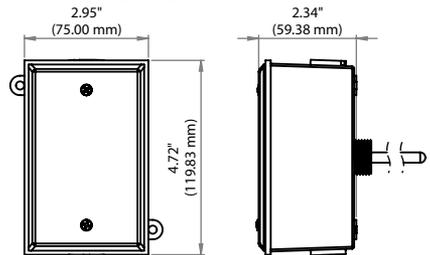

FIGURE 2: MOUNTING DIMENSIONS
Drill a 3/8" hole in the duct and insert the probe through the hole until the enclosure is tight to the duct. Drill pilot holes for the (2) mounting screws. Use the enclosure flange as a guide, or use the dimensions listed in **FIGURE 2** (p. 2). Now fasten and insert (2) screws through the mounting holes in the flange and tighten until the unit is held firmly to the duct. Make sure the enclosure is tight to the duct to eliminate any possible air leaks.